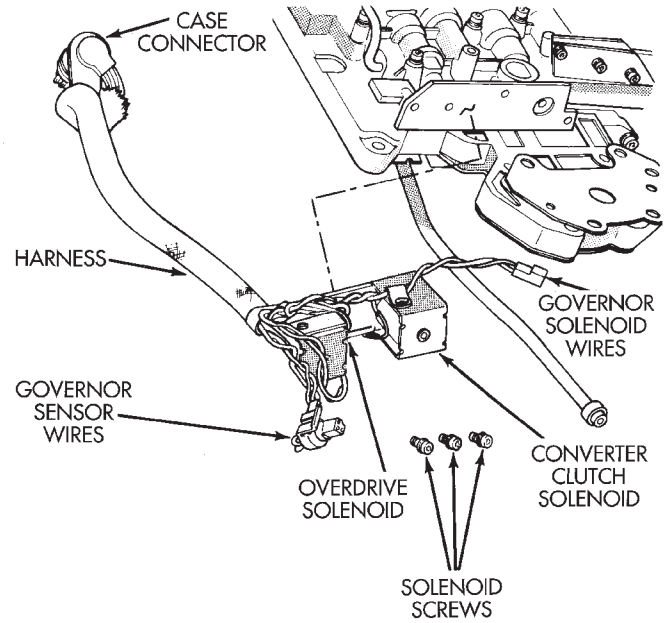

Fig. 51 Solenoid Assembly
- (11) Remove solenoid and harness assembly from valve body (Fig. 51).